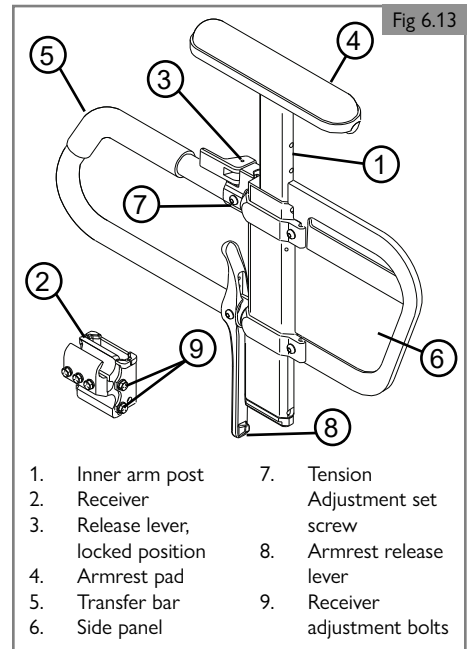

Fig 6.13
6.9 Single post height adjustable armrest (Option) (Fig 6.13)